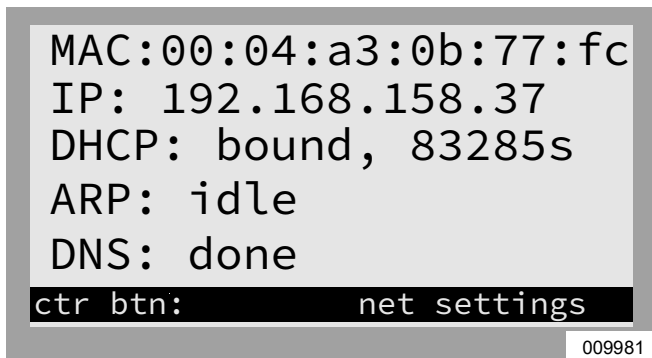

Figure 6-26. Ethernet Troubleshooting
- Navigate the inverter control panel until a screen similar to Figure 6-26. When properly installed, the inverter control panel will have an additional device page called Ethernet Settings.